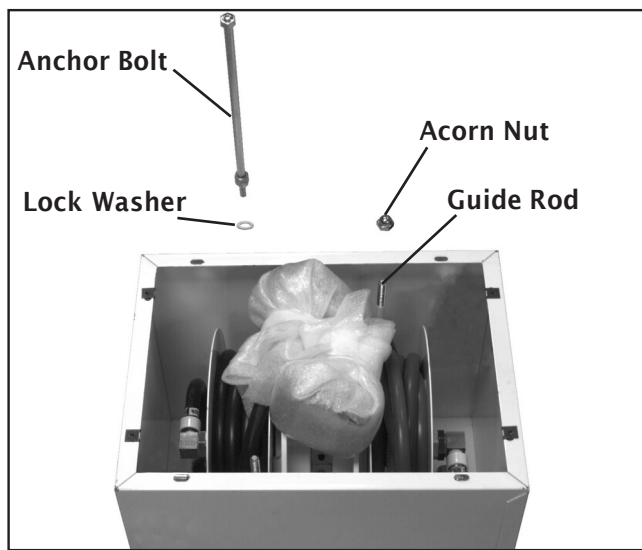

Figure 2
3. Remove two hex head anchor bolts and washers holding reel assembly to mounting box (Figure 2).
4. Remove two acorn nuts from guide rods (Figure 2).